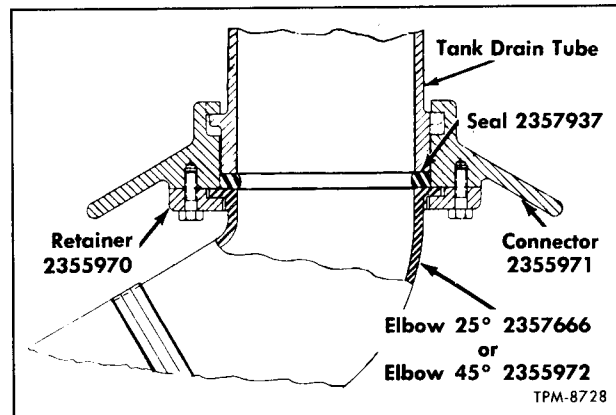

Figure 8—Chemical Tank Outlet and Quick-Lock Connector
For the purpose of remotely draining the chemical tank, special connectors and fittings, shown in figures 8 and 9 are available from the Service Parts Department, General Motors Truck & Coach Division, Pontiac, Michigan.
1. Place coach over sewer opening and attach drain hose special quick-lock connector to tank outlet (figs. 8 and 9). If receptical or sewer facilities are not available, comply with local health
2. Underneath coach, disconnect tank drain hose (fig. 8) (if used).